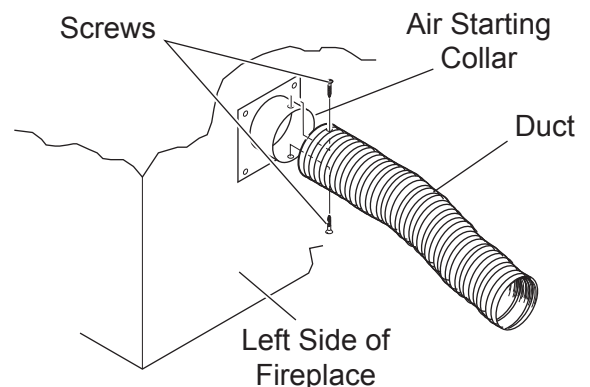

Figure 19 - Attaching Outside Duct to Starting Collar
4. Attach outside duct to starting collar with duct clamp or screws. See Figure 19.
6. Select and cut a piece of duct long enough to attach to the fireplace and stick out at least 3" beyond the face of the wall to which the AK-4 inlet air vent will be attached. See Figure 19.